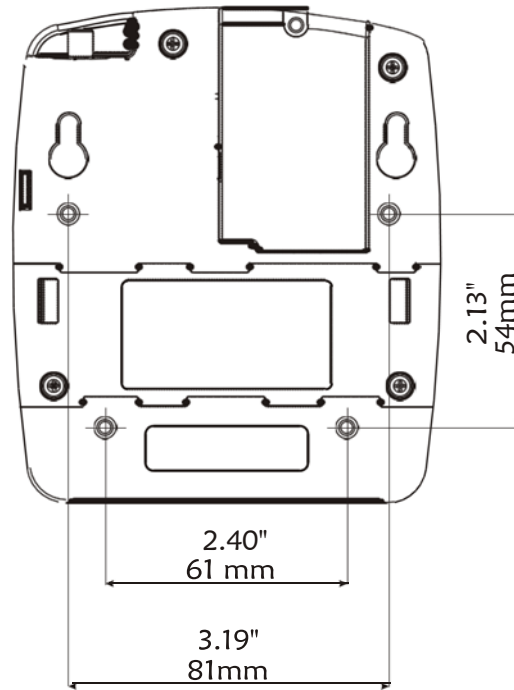

Figure 6
1. Using four M3x6 or M3x8 screws, attach a bracket (not supplied) to the back of the PIU. The upper two bracket holes must be 3.19" (81 mm) apart, and the lower two bracket holes must be 2.40" (61 mm) apart and 2.13" (54 mm) below the upper holes, as shown in Figure 6.